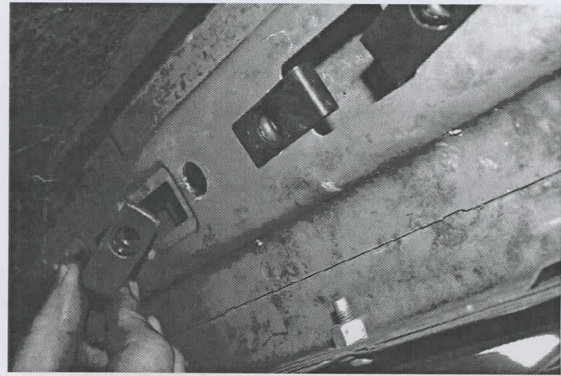

FIGURE 16
- 12. Locate the 3/8-16 U-nut clips** that are supplied in the hardware kit. Note that some are flat along their edges while others are bulged. The flat-edged ones are referred to as "skinny" nut clips, while the bulge-edged ones are referred to as "fat" nut clips. For each side you will use three (3) skinny clips and five (5) fat clips. These nut clips will slip into the rectangular holes along the underside of the Jeep as shown in Figure 16, allowing the nut portion of the clip to locate at the round holes you just drilled adjacent to the rectangular holes.